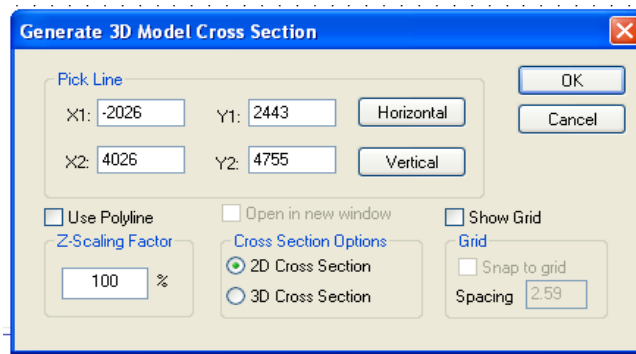

Figure 25: Generate 3D Model Cross Section dialog
- Click the **Cross-section** tool . The **Generate 3D Model Cross-Section** dialog will appear (Figure 25).